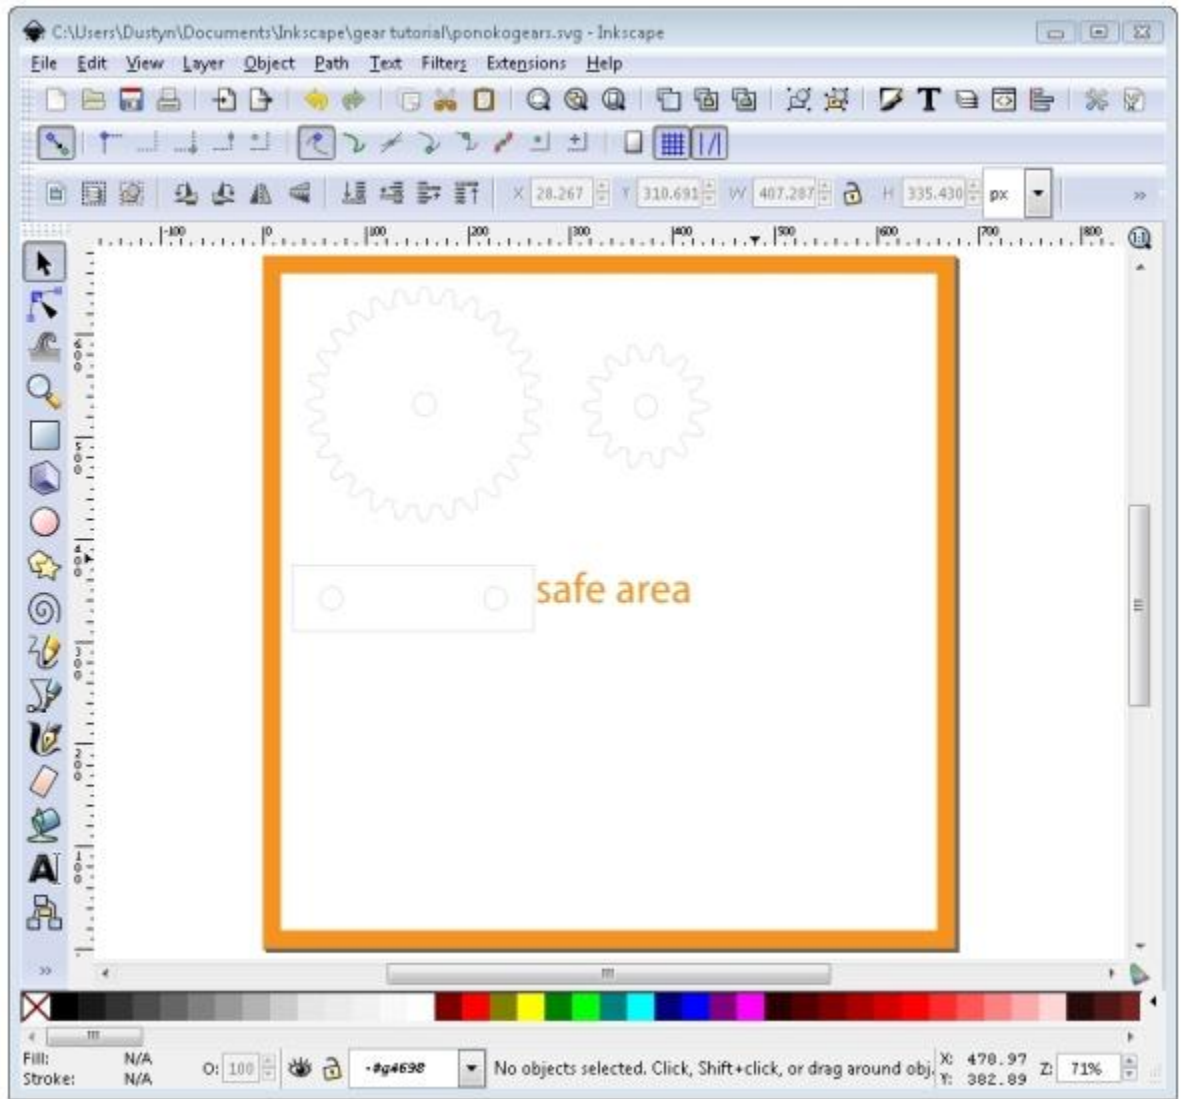

Figure 9
1. Open the P1.svg template you downloaded earlier. Select everything you have drawn so far, and copy and paste it into this template as shown in Figure 9. Don't worry about the orange border and words — Ponoko knows only to cut the blue outlines.